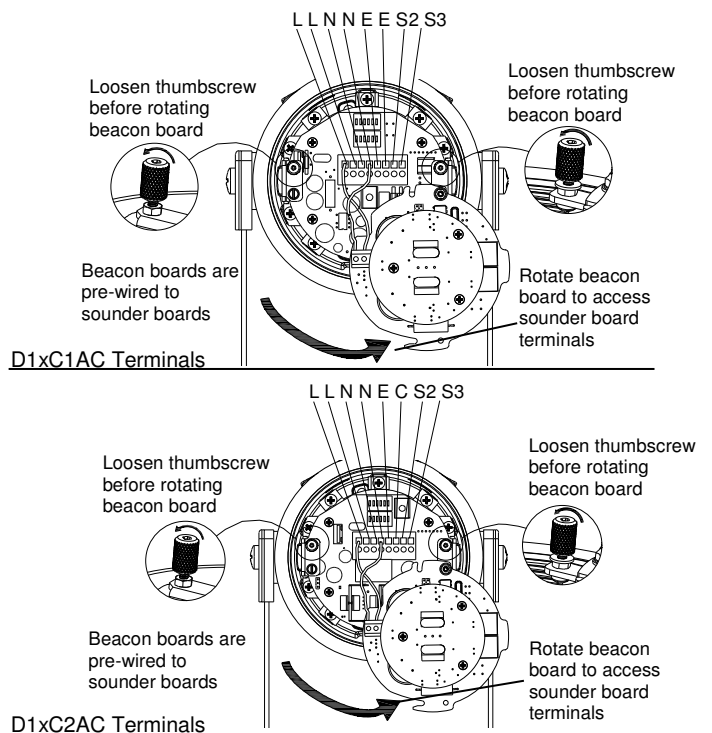
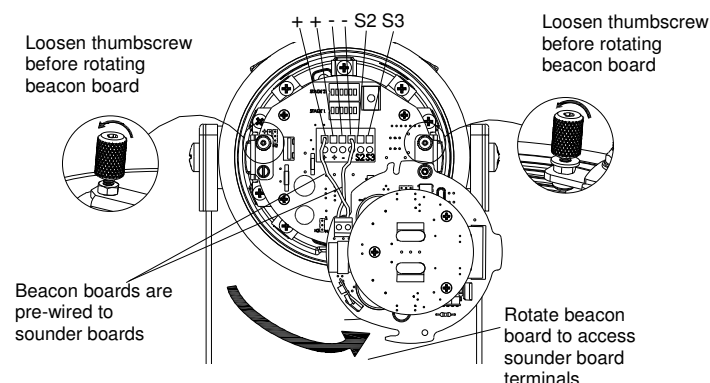

Fig. 6 AC Terminals
Fig. 8 DC Terminals
- Fit an M20x1.5 suitably rated cable gland or conduit entry into the hole in the enclosure and connect the field wiring to the appropriate alarm horn terminals as shown in fig. 6 (AC) or fig 8. (DC). The power supply terminals are duplicated so that units may be connected in parallel. An end of line monitoring resistor may be fitted to DC units only (see section 14). If the second and third M20x1.5 and or NPT entries are not used, suitably rated stopping plugs must always be fitted.
Stage one (S1) operation: Simply connect the supply voltage to the L and N supply terminals, (see fig. 6).
Stage one (S1) operation: Simply connect the supply voltage to the + and - supply terminals, (see fig. 8).